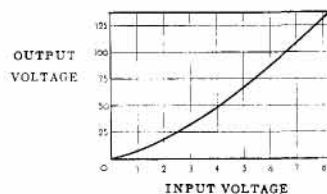

Figure 3. Linearity of *-hp- 460B* Amplifier.
-hp- 460A Wide-Band Amplifier is used fundamentally to provide voltage gain. (Approximately 20 db.) Its companion equipment, -hp- 460B, is designed as a terminal amplifier to give maximum voltage or power output. The amplifier's ultra-short rise time of .0026 μ sec, combined with zero overshoot, insures distortion-free amplification of pulses faster than 0.01 μ sec. -hp- 460B cascaded with 460A provides linear amplification of 16 volts peak output; and with two 460B, pulse amplification of 125 volts (open circuit limited duty cycle.) This permits full deflection of 5XP cathode ray tubes or two inch deflection of 5CP tubes. (Slight non-linearity, *see Figure 3.*) This unusual combination gives maximum usefulness for fast-pulse nuclear radiation problems, television, vhf, uhf or shf work. It also means the bandwidth of your standard oscilloscope can be increased to over 100 MC, and voltmeter sensitivity multiplied by 10. In cascade or singly, the amplifiers offer still further convenience as general-duty wide-band amplifiers for all types of laboratory problems.